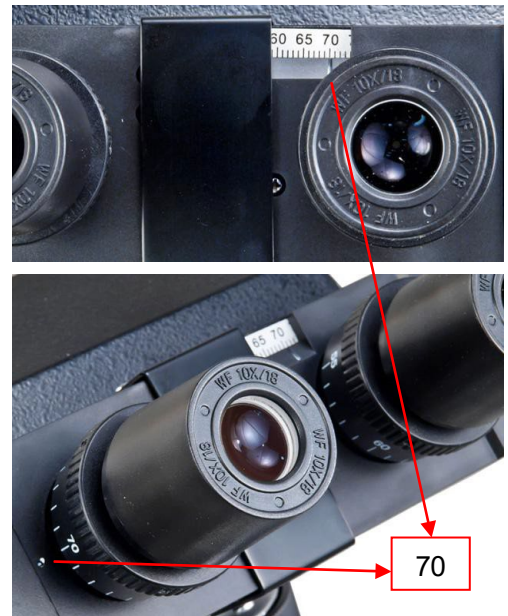

Fig.5
- 2) Rotate the diopter rings on the eyepiece tubes until its numerical value is the same as your interpupillary distance, for example, **70** in the figure (See **Fig. 5**).